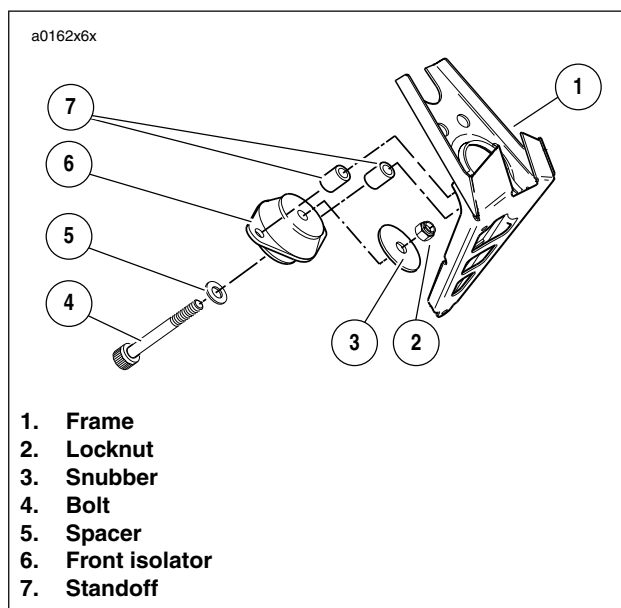

Figure 3-41. Front Isolator Mount
32. See Figure 3-41. Install front isolator mounting bolt, spacer snubber and **new** nut.